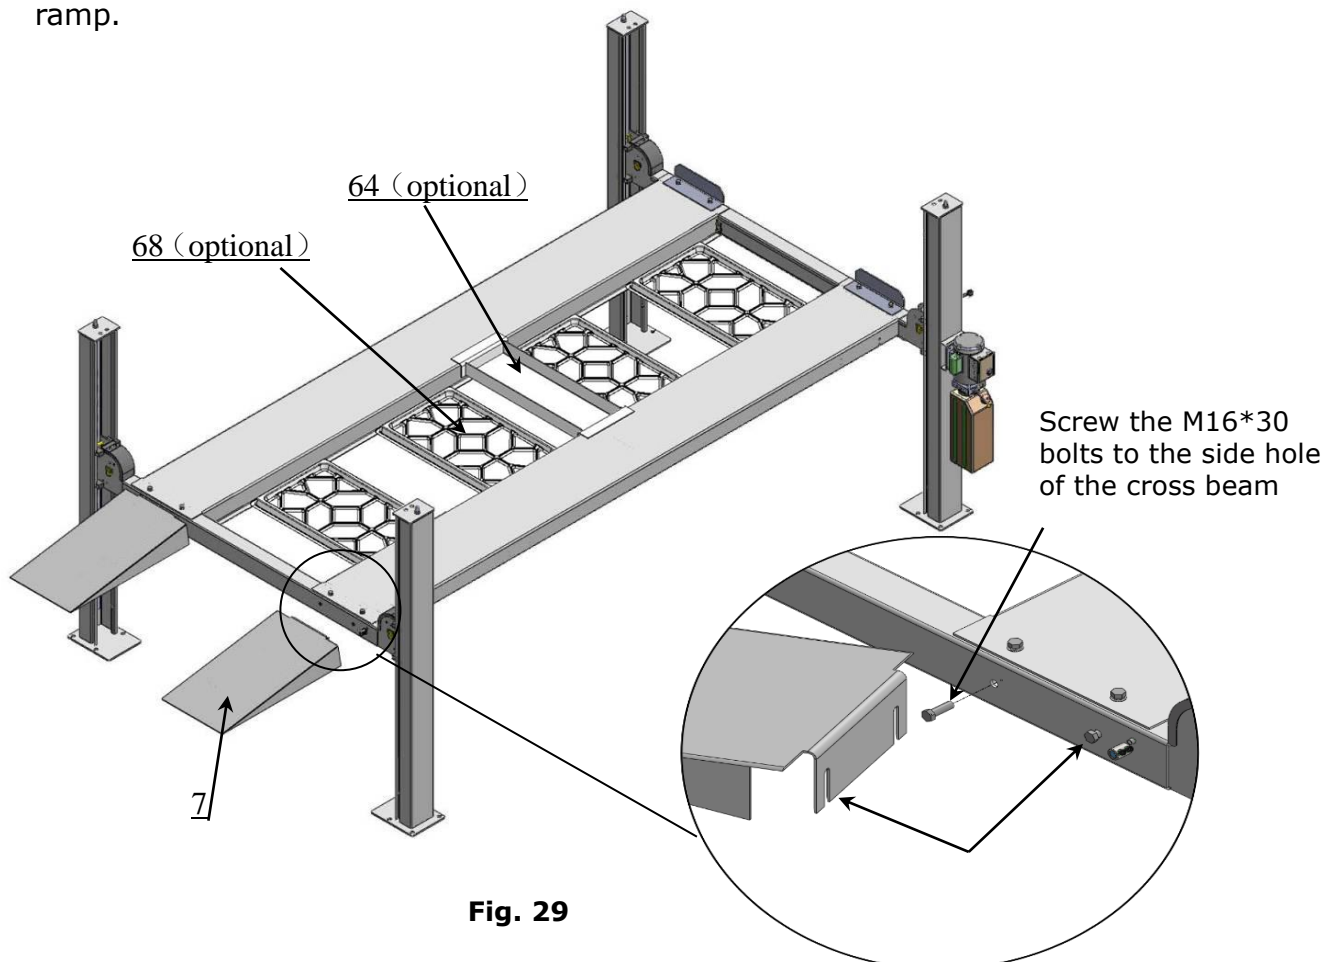

Fig. 29
N. Install drive-in ramp, optional jack tray and optional plastic oil pans (See Fig. 29).